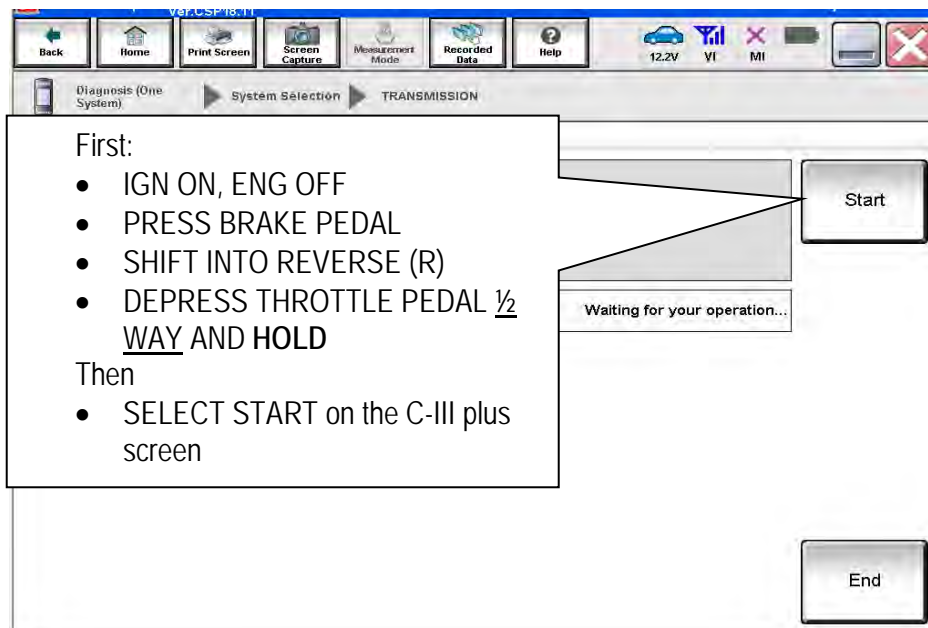

Figure 10F
18. Before selecting **Start**, follow the directions in Figure 10F.